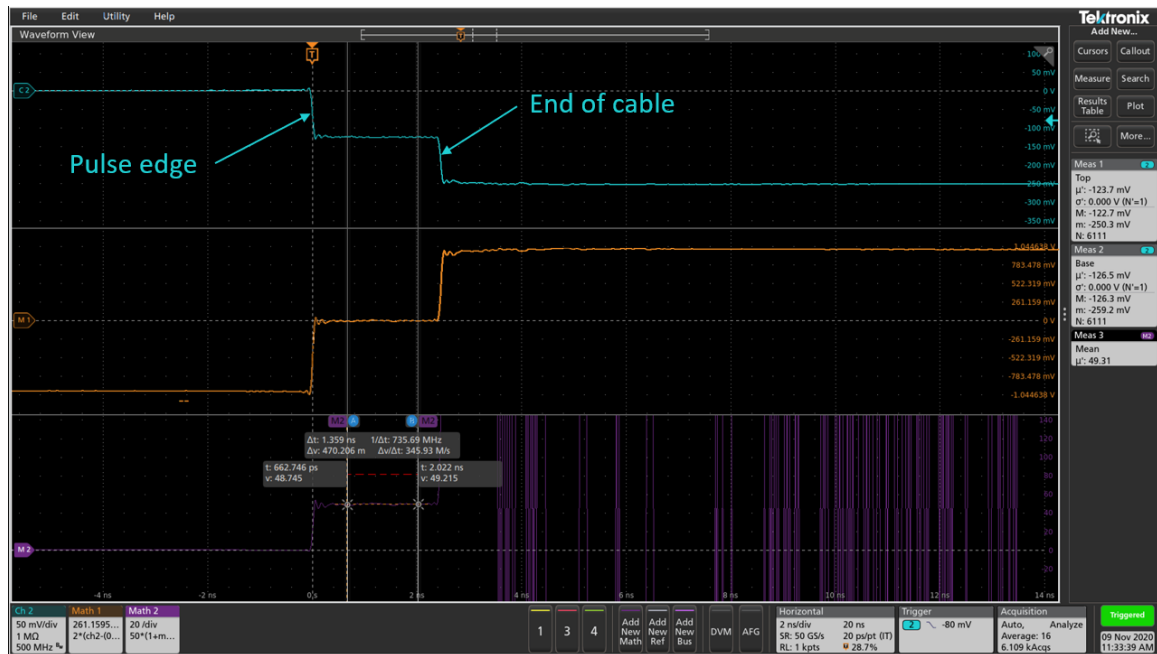

Fig. 8 - TDR Pulse Edge and End of Cable Edge.
When using a TDR, it is important to set your reference point. If you are using an SMA connection between the TDR and the DUT, then it is important to understand where to reference (in time) on the scope where your DUT measurement begins. You can find the pulse launch by setting the trigger to the pulse channel, which is CH2, as shown by Fig. 8.
1. Connect only your 50Ω cable to the TDR and note where the far edge starts to change on the reflection coefficient and impedance traces on the oscilloscope. An example is shown by Figure 8 below.